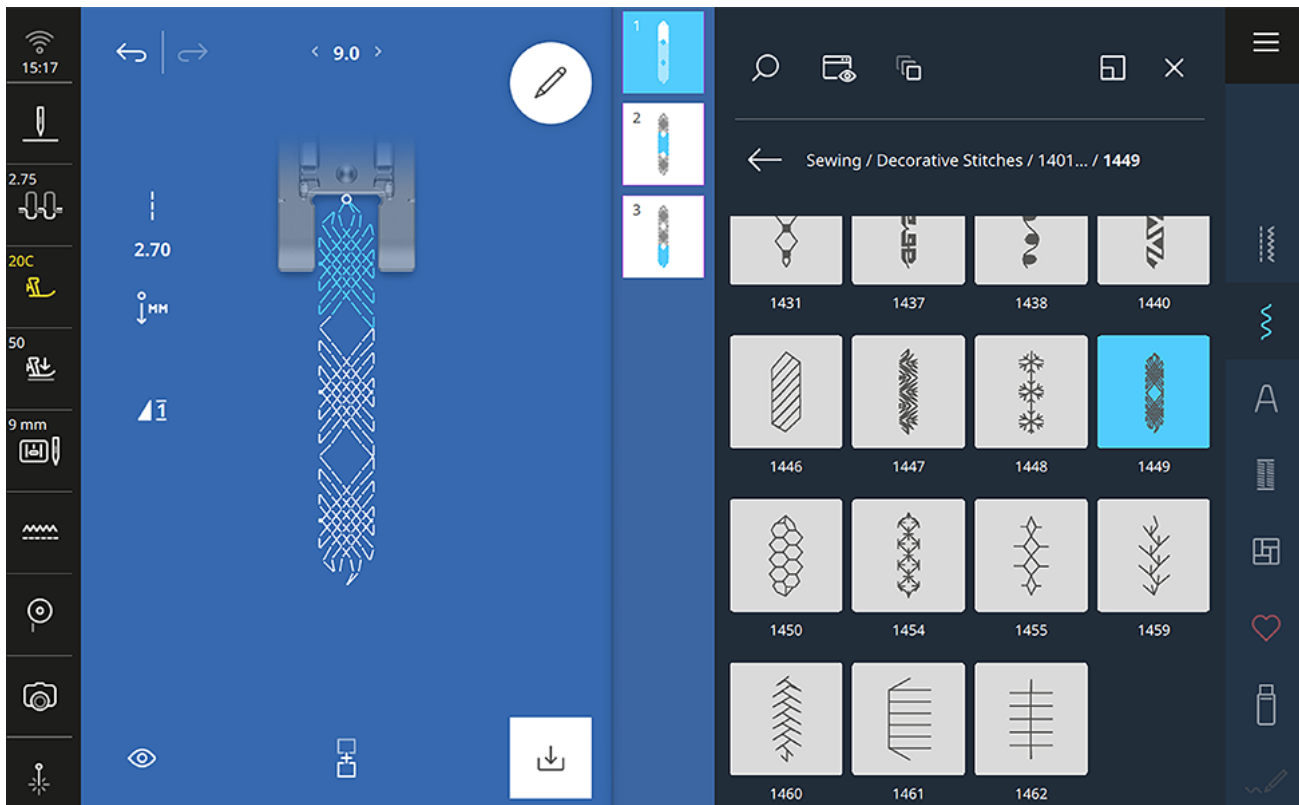

Fig. 36
2. Select stitch #1449 (it opens similarly to the Manual Buttonhole) (Fig. 36 on previous page).